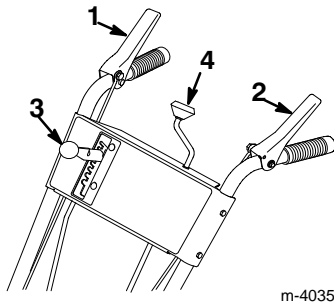

Figure 18
- Operate the discharge chute control (Fig. 18) and move the worm gear slightly outward if the discharge chute control binds.
- **Auger/Impeller Control Lever** (Fig. 18)—To engage both the auger and the impeller, press the lever against the right handgrip. To disengage, release the lever.
- **Traction Control Lever** (Fig. 18)—To engage the traction (wheel drive), press the lever against the left handgrip. To stop traction, release the lever.
- **Speed Selector** (Fig. 18)—This control has five positions: two reverse and three forward speeds. To change speeds, move the speed selector to the desired position. The lever locks in a notch at each speed selection. The speed selector may shift with difficulty in heavy load conditions.
- **Discharge Chute Control** (Fig. 18)—Rotate the discharge chute control clockwise to move the discharge chute to the right and counterclockwise to move the chute to the left.
2. Ensure that the auger/impeller control lever and the traction control lever are in the Disengaged position (Fig. 18).
10. Move the speed selector (Fig. 18) to first gear, squeeze the traction control lever to the handgrip, and then release the traction control lever. If the snowthrower moves forward before engaging traction control lever or after releasing lever, see *Adjusting the Traction Drive* on page 20.
1. Release the traction and the auger/impeller control levers (Fig. 18).